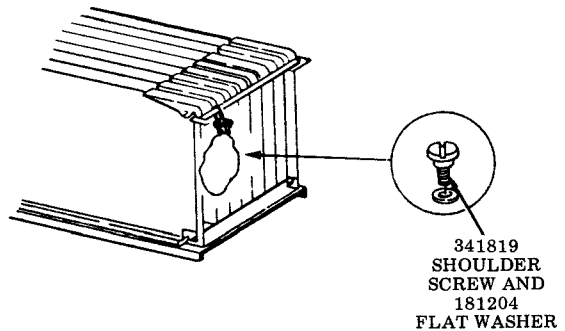

Fig. 47
Step 6 — Remove the muslin bag containing the 341819 shoulder screw and 181204 flat washer used to mount the display logic into frame and retain for later assembly (Fig. 47).